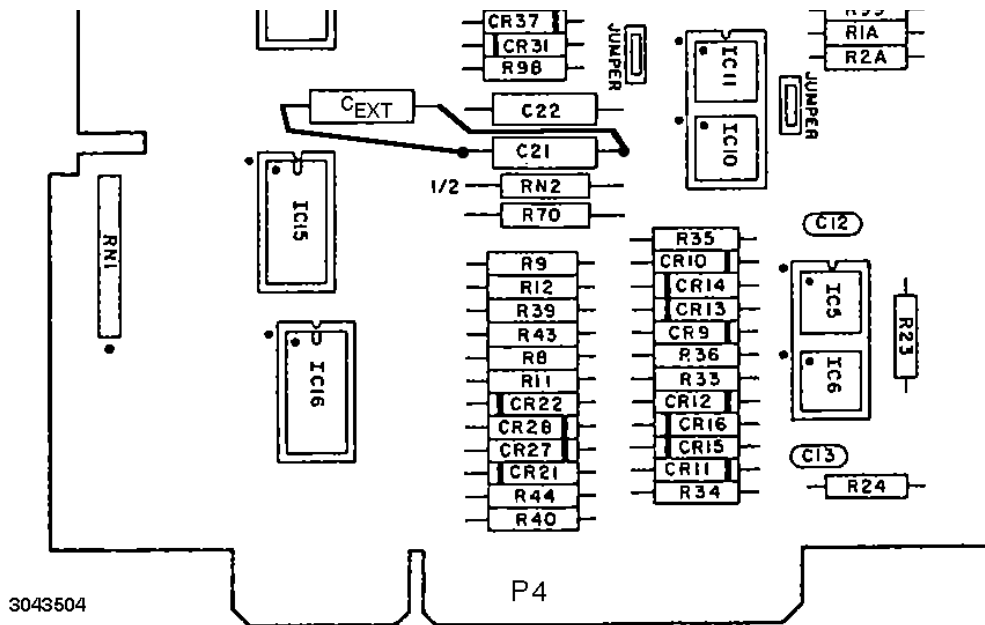

FIGURE 1. ASSEMBLY A1, EXTERNAL BANDWIDTH CORRECTION CAPACITOR LOCATION (OLDER MODELS ONLY)
- For older models, identified by the indicator between the two front panel meters labeled REMOTE, the external capacitor is soldered across A1C21 (see Figure 1).
EXTERNAL CAPACITOR (ACROSS A1C21, SEE FIGURE 1)